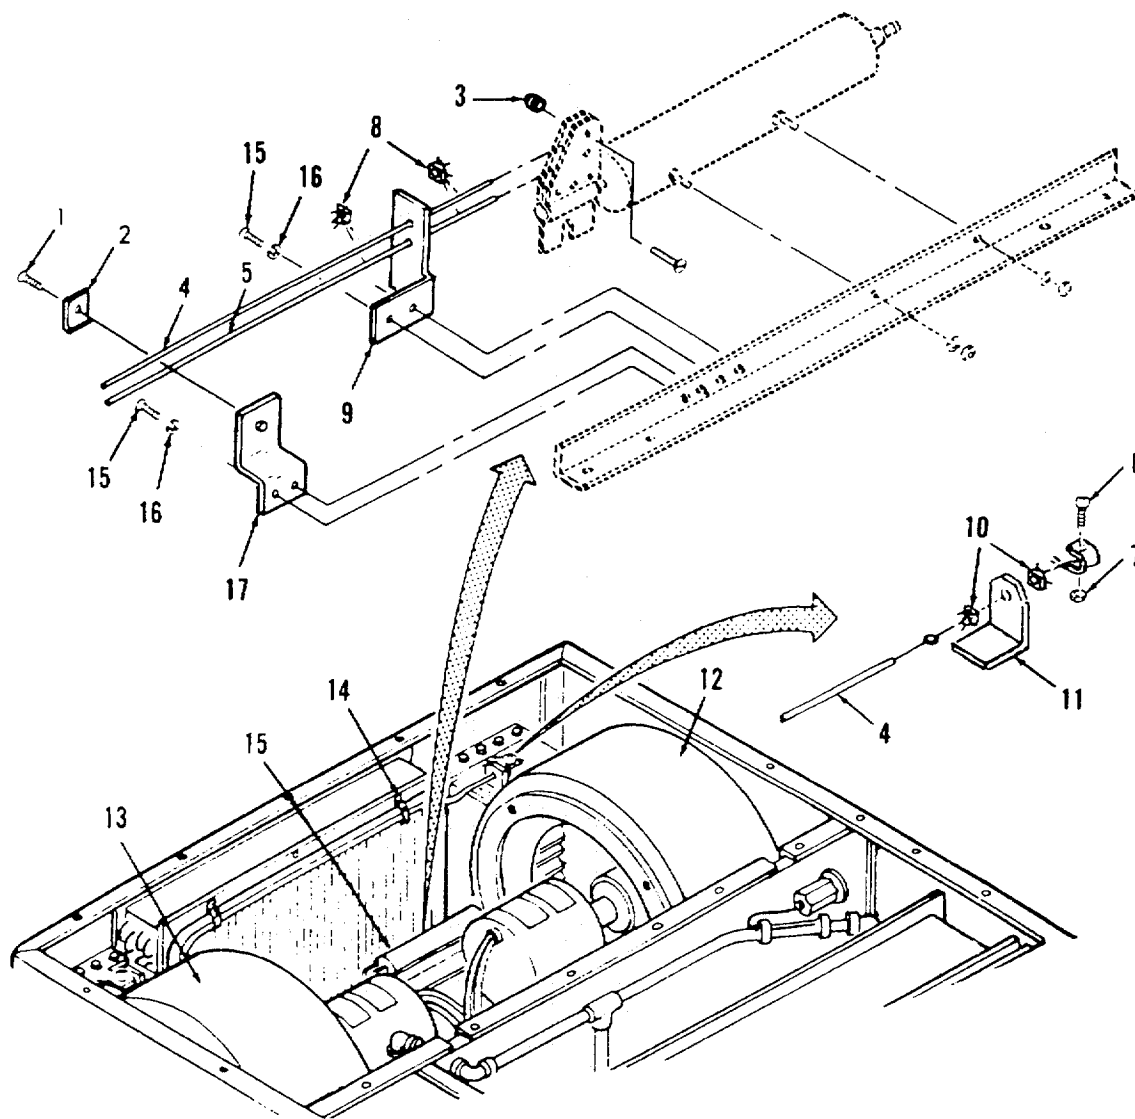

Figure 3-23. Louver Actuator Cables.
**a. Removal.** (Refer to Figure 3-23).
- (1) Remove cable ties from louver cables.
- (2) Remove screw (1) and cable clip (2).
- (3) Remove two mechanical posts (3) from ends of louver actuator cables (4) and (5).
- (4) Remove two screws (6) and two nuts (7) attaching louver actuator cables (4) and (5) to louver assemblies.
- (5) Compress clamps (8) on louver actuator cables (4) and (5) and pull cables through control bracket (9).
- (6) Compress clamps (10) on louver actuator cables (4) and (5) and pull cables through angle (11) on condenser fan scrolls (12) and (13).
- (7) Remove all cable ties (14) used to hold louver actuator cables (4) and (5) in place and remove both cables.
- (8) Remove four screws (15), four lock washers (16), bracket (17), and control bracket (9).